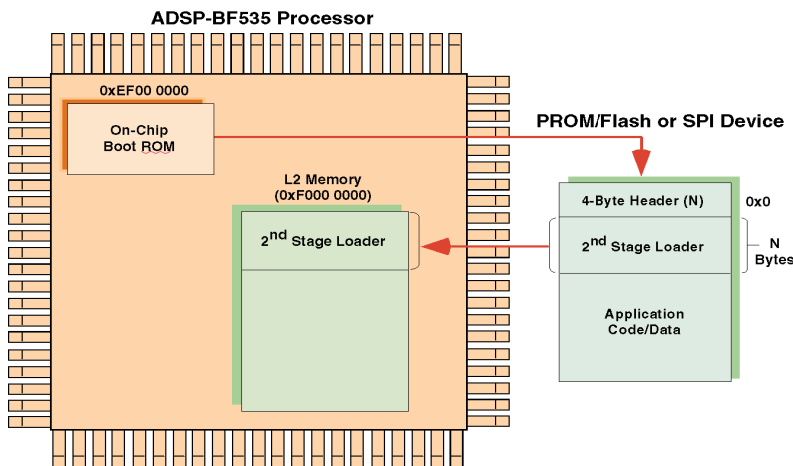

Figure 2-3. ADSP-BF535 Processors: Booting With Second-Stage Loader
1. Upon reset, the on-chip boot ROM downloads N bytes (the second-stage loader) from external memory to address 0xF000 0000 in L2 memory (Figure 2-3).